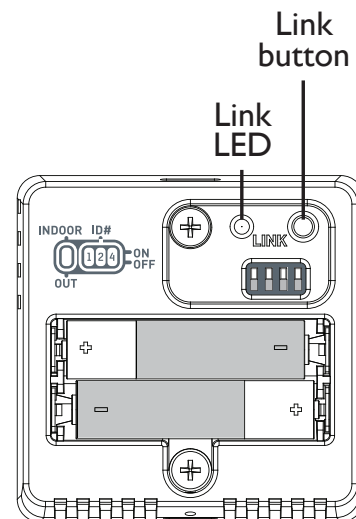

fig. 3
3. Install 2AAA batteries with the polarity as indicated on the ACC-TSENFIFIMINI housing. (see fig. 3).
4. Press and hold the Link button (see fig. 3) until the Link LED starts to flash.